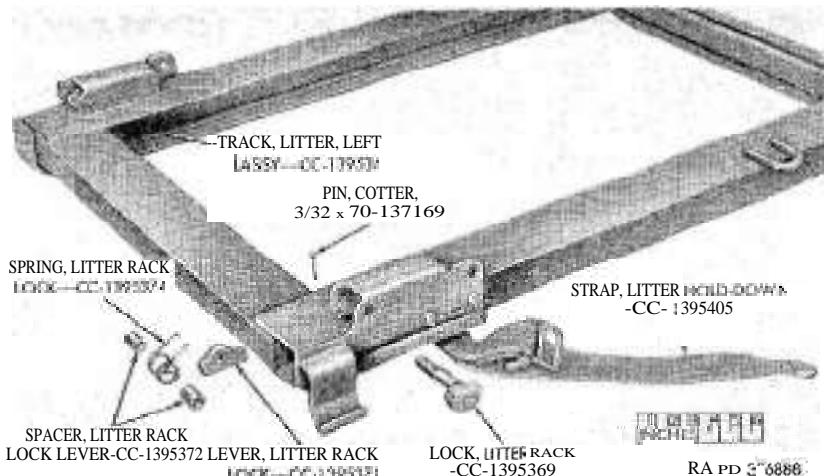

Figure 215. Litter rack lock and related parts.
f. Remove Litter Rack Lock and Related Parts From Litter Racks (fig. 215).
- (1) Turn litter rack locks and remove litter rack lift handle assemblies from litter rack.
- (2) Remove cotter pin and pull litter rack lock from bracket on litter rack. Remove litter rack lock lever, litter rack lock lever spacers, and litter rack lock spring from each side of litter rack.
- (1) Inspect litter rack assembly (*fig. 215*) for broken welds, corrosion, or distortion. Broken welds can be repaired by welding. If litter racks are distorted or damaged by corrosion, replace as required.
- (3) Inspect litter hold down straps (*fig. 215*) for wear or deterioration. Replace straps if either of these conditions exist.
- (4) Inspect litter rack locks (*fig. 215*) for bent or broken shafts. If either of these conditions exist, replace locks.
- (5) Inspect litter rack lock levers (*fig. 215*) for cracks or wear. If either of these conditions exist, replace levers as required.
- (6) Inspect litter rack lock springs (*fig. 215*) for cracks or distortion. Replace springs if either of these conditions exist.
- (7) Inspect litter rack lock lever spacers (*fig. 215*) for damage. If spacers are damaged, replace as required.
*c. Install Parts on Litter Racks (*fig. 215*).*
- (1) Insert litter hold down straps through slots in litter brackets at each end and install retaining pins or loops.
- (2) Place litter rack upside down. Insert litter rack lock lever spacers in litter rack lock spring and position spacers and spring in litter rack bracket with ends of spring up and forward. Position litter rack lock lever between spring coils and in slot in litter rack (straight edge out). Aline lock lever, spring, and spacers. Install litter rack lock with curved side of lock toward end of litter. Install a new 3/32 x $\frac{7}{8}$ cotter pin.
- (3) Install litter rack lift handle assemblies (*fig. 213*) with slots on lock side so that they will engage with the litter rack lock lever (*fig. 215*).